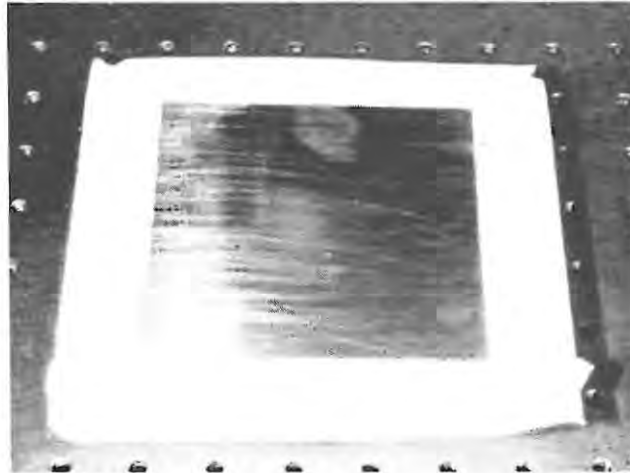

Figure 5-5. Preparation of the Replacement FAP-I Assembly
2. Apply the die-cut template to the bottom of diode to avoid getting thermal compound in the screw holes in the next step. Alternatively, place masking tape over the edges of the FAP-I baseplate as illustrated in Figure 5-5.